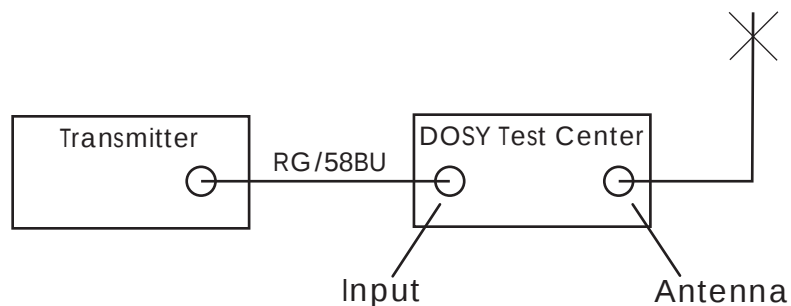

Figure 1
The TB-3001 Test Center will indicate the power output (in watts) of your equipment at the point in the transmission line where you have installed the test center. To measure any power from 1 to 1000 watts, just set the RF Power Range Switch (#6 FIG. 1) to the appropriate range: 10, 100, 1000 watts. Key the transmitter and read the wattage on the corresponding scale of the RF Power Meter (#2 Fig. 1).
1. Operate SWR Set Control Switch (#4 Fig. 1) to Set Position.
2. Turn SWR RF Level Control (#5 Fig. 1) to Min.
3. Key transmitter and turn SWR RF Level Control clockwise (#5 Fig. 1) to give a full scale meter reading to Set Line on the SWR Meter (#1 Fig. 1).
1. Operate MOD SET Control Switch (#8 Fig. 1) to SET position.
2. Turn MOD RF Level Control (#7 Fig. 1) to Min.
3. Key transmitter and turn MOD RF Level Control (#7 Fig. 1) clockwise to give a full scale meter reading to Set on the Modulation Meter (#3 Fig. 1)
4. Operate MOD SET Control Switch (#8 Fig. 1) to MOD position. Key transmitter and talk or steadily whistle into the microphone. Read Modulation percentage directly on the modulation meter (#3 Fig. 1)